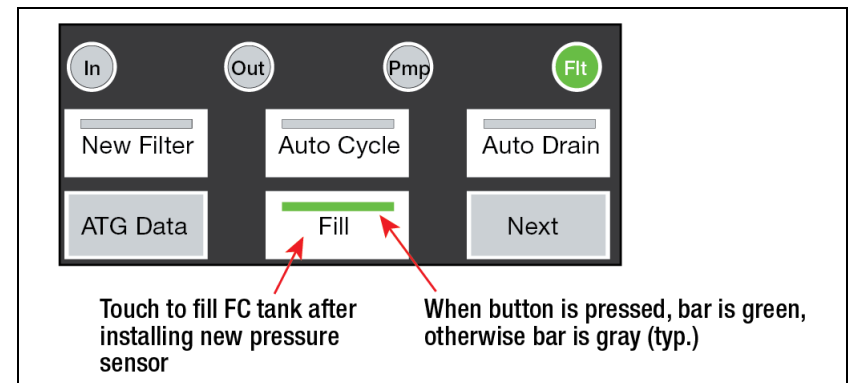

Figure 4.
16. Touch the Fill button to refill the Fuel Conditioner filter compartment (see Figure 4).